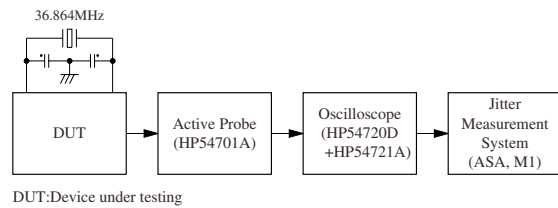

Figure 2. Measurement circuit 2
- The numeric values are measured values obtained using the circuit in Figure 2 and the NPC standard evaluation board.